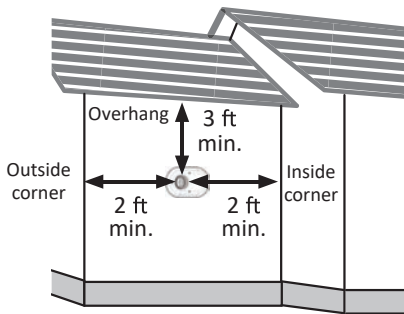

Figure 1 - Overhang and Inside Corner Restrictions
- **DO NOT** install the exhaust vent or outdoor model vent terminal within 3 feet (914 mm) of a ventilated or unventilated soffit or eave vent; or to a deck or porch. Vent terminations must be at least 2 ft (610 mm) away from an inside corner for both direct vent or other than direct vent installations (Figure 1).